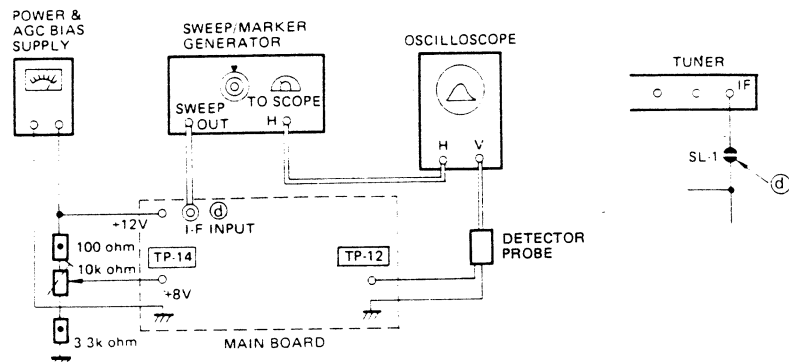

Figure 7. Picture I-F Sweep Alignment
- GENERAL Refer to Figure 7 for test equipment connection.
- PRELIMINARY STEPS 1. Disconnect the solder link SL-1 (ⓐ see Figure 7) on the foil side of the Main Board.
- SWEEP/MARKER GENERATOR Connect to the point ⓐ as shown in Figure 7 on the Main Board.
- PRELIMINARY STEPS 1. Disconnect the solder link SL-1, SL-3 (ⓐ see Figure 7 and 9) on the foil side of the Main Board.